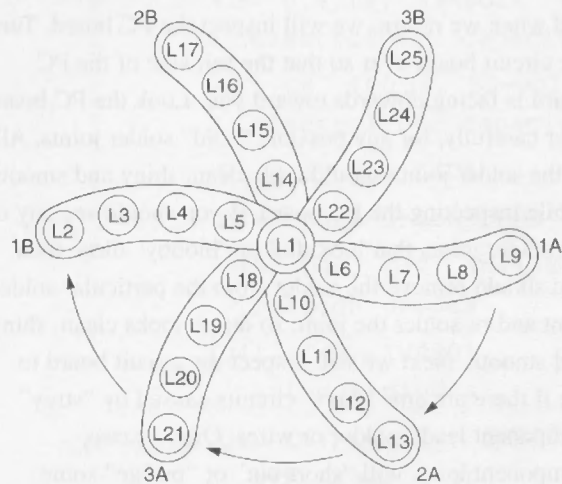

Figure 26-6 *Windmill LED orientation*
with an arrow pointing to it. Opposite the cathode lead is the anode, which is the arrow. Note that the anode, or (A) lead is the longer of the two LED leads and the (K) or cathode lead is the shorter lead. Take a look at the diagram depicted in Figure 26-6, which illustrates where the LEDs are installed on the PC board. The secret of the spinning effect is in the placement of the LEDs. Note that Blade-1 of the windmill is the LED bank 1. LEDs L6 through L9 are represented as A1, while L2 through L5 are represented as 1B or Blade-1 or Arm-1 of the windmill. Now, observe that Blade-2 is made up of 2A and 2B. LEDs L10 through L13 are designated as 2A, while LEDs L14 through L17 are shown as 2B. Finally Blade-3 or Arm-3 of the windmill is represented as 3A and 3B. LEDs L18 through L21 are section 3A and LEDs L22 through L25 are shown as section 3B. Once powered the circuit will have three "blades" or "arms" which appear to rotate clockwise